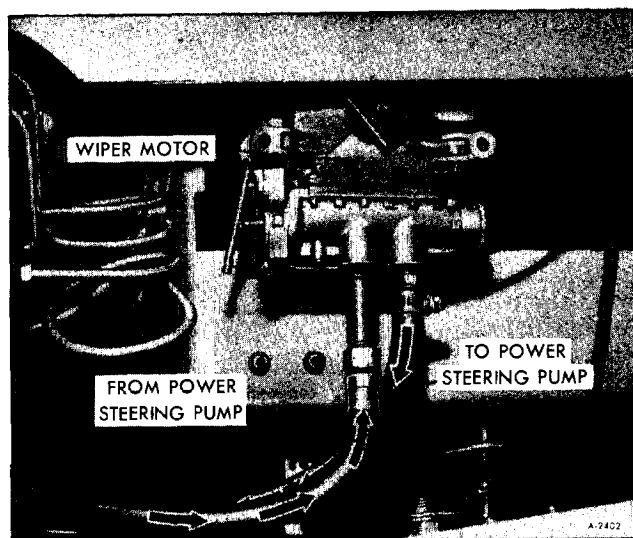

Figure 13—Windshield Wiper Motor
4. Connect hoses to motor assembly as shown in Figure 13.